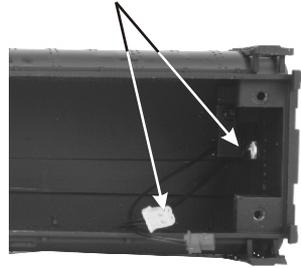

Figure 7b
The marker lights for the tender can be replaced following the same procedure use for the engine. Remove the six screws that attach the tender body to the tender frame as shown in fig. 7b.
1. Unplug the yellow connector in the rear of the tender shell. See fig. 7b